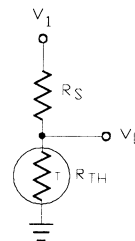
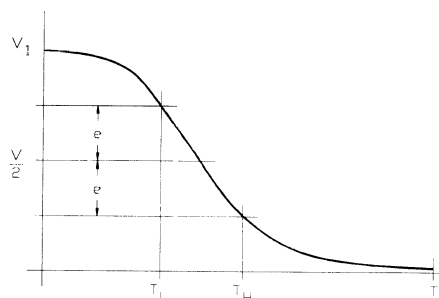

Figure 3
Figure 4
characteristic over a specified temperature range. Figure 3 shows a voltage divider including a thermistor. Figure 4 shows V_o vs temperature for this voltage divider. Output voltage approaches V_1 and 0 in the limits as thermistor resistance approaches infinity and zero. For best linearity, the voltage excursions above and below the midpoint should be equalized. The temperature compensation network design procedure is as follows:
3. Design a voltage divider to use the linear portion of the curve in Figure 3.